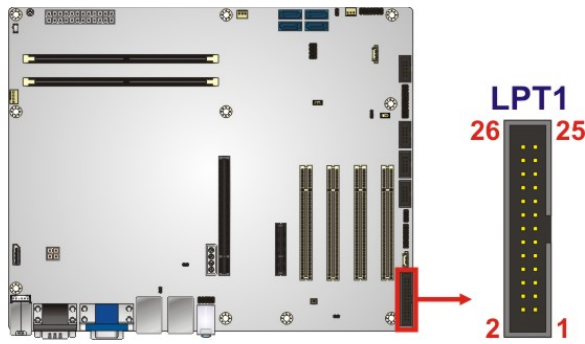

Figure 3-18: Parallel Port Connector Location
- CN Location:** See **Figure 3-18**